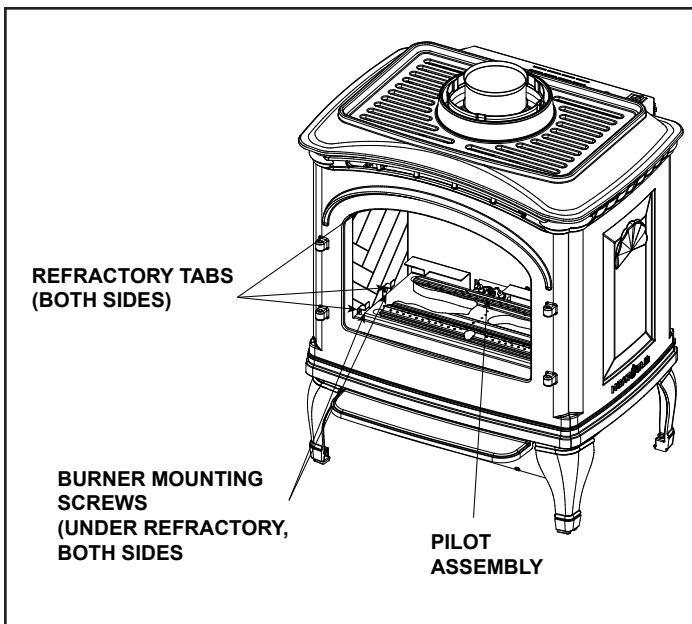

Figure 6.13 - Remove Burner
12. Remove the logs and side refractory if installed. To remove side refractory, bend tab at top front corner of refractory, Figure 6.13.
14. The pilot needs to be lifted slightly to accommodate the burner removal. Remove the two screws that attach the pilot to the burner. Lift the pilot slightly until it clears the pilot mounting tabs, Figure 6.13.
15. Remove two burner mounting screws from each side of the burner. Lift burner up and out of appliance, Figure 6.13.